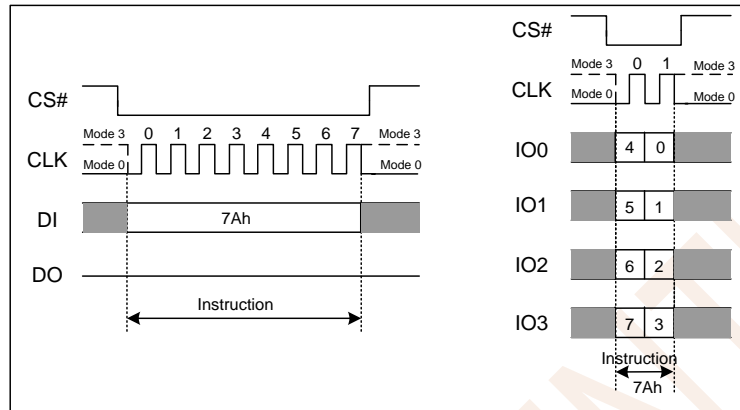

Figure 7.12 Erase/Program Resume Instruction(SPI or QPI Mode)
0. After the Resume command is issued the SUS bit will be cleared from 1 to 0 immediately, the BUSY bit will be set from 0 to 1 within 200 ns and the Sector or Block will complete the erase operation or the page will complete the program operation. If the SUS bit equals to 0 or the BUSY bit equals to 1, the Resume command “7Ah” will be ignored by the device. The Erase / Program Resume command sequence is shown in Figure 7.12. It is required that a subsequent Erase / Program Suspend command not to be issued within a minimum of time of “t_{SUS}” following a Resume command.